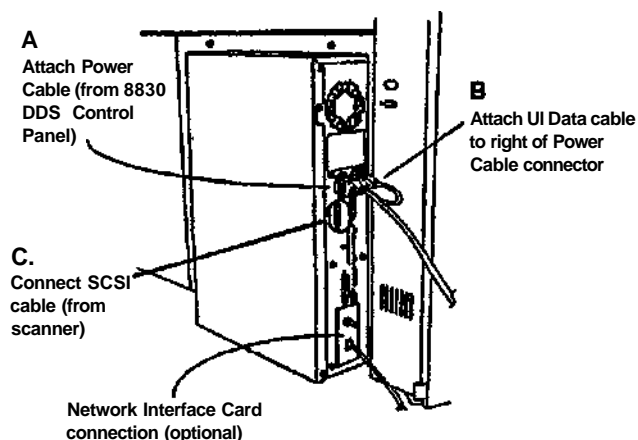

Figure 9 Location of Control Panel Cable connection on 8830 Controller
9. (Figure 9): Connect the following scanner cables to the 8830 Controller Connector Panel.